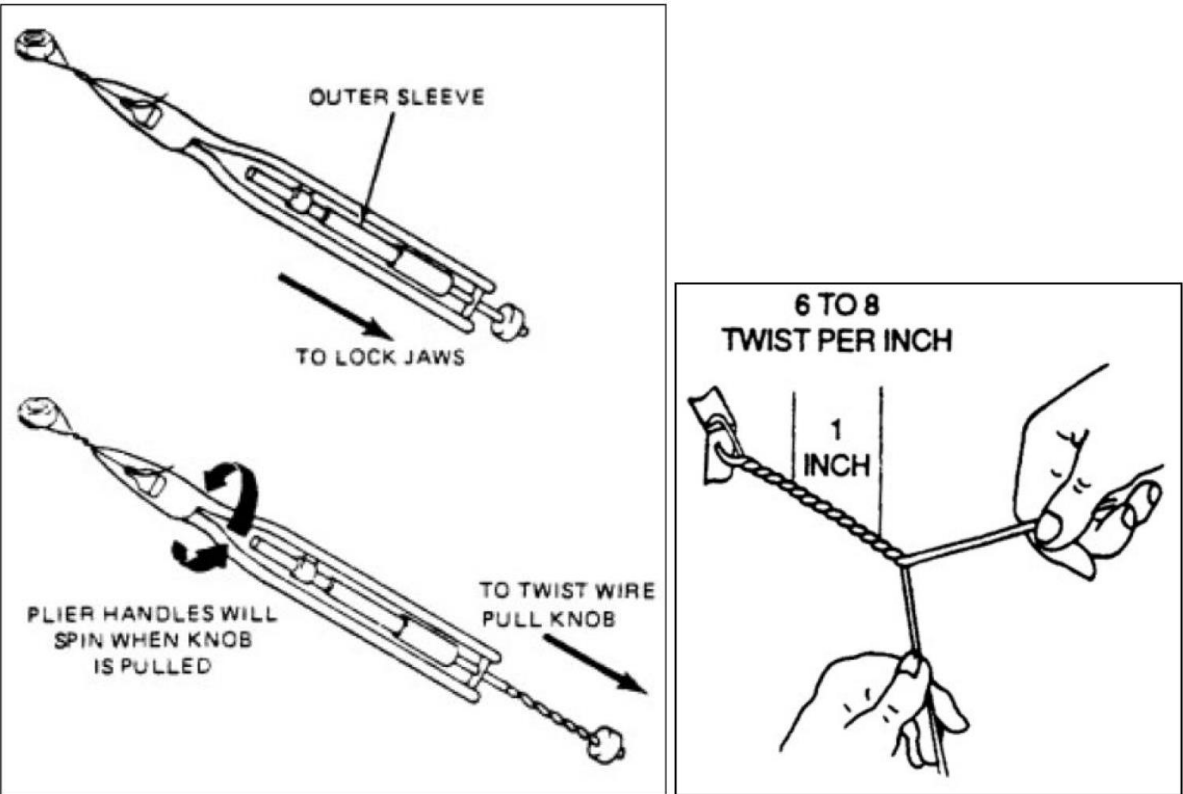

Figure 42 – Safety Wire Installation Using a Twister/Pliers & By Hand
- e. Safety wire must never be over-stressed. Safety wire will break under vibrations if twisted too tightly. Safety wire must be pulled taut when being twisted, and maintain a light tension when secured (Figure 42).